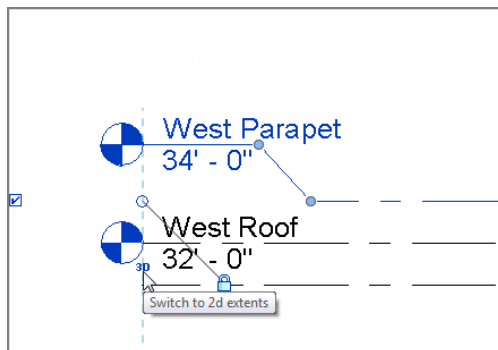
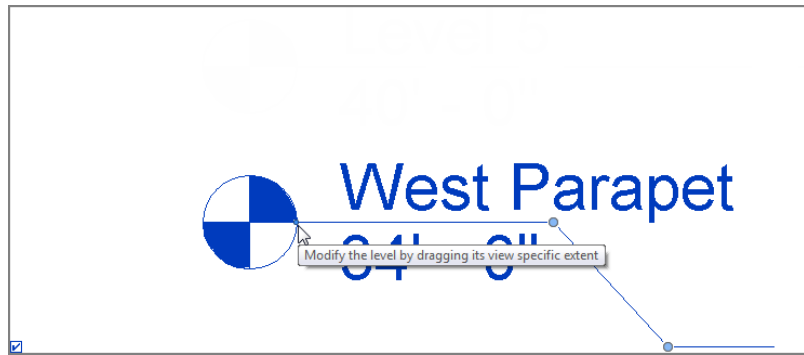

FIGURE 3.25: Turn off the 3D extents so you can drag the level end freely and without disturbing any other view.
FIGURE 3.26: The little blue grip enables you to drag the entire level.
5. Pick (left-click) the 3D icon. It now reads 2D. The larger, hollow blue grip turns into a smaller, solid grip. You can now drag the level end without dragging the rest along with it. The 2D function also ensures that this modification doesn't affect other views (see Figure 3.25 and Figure 3.26).